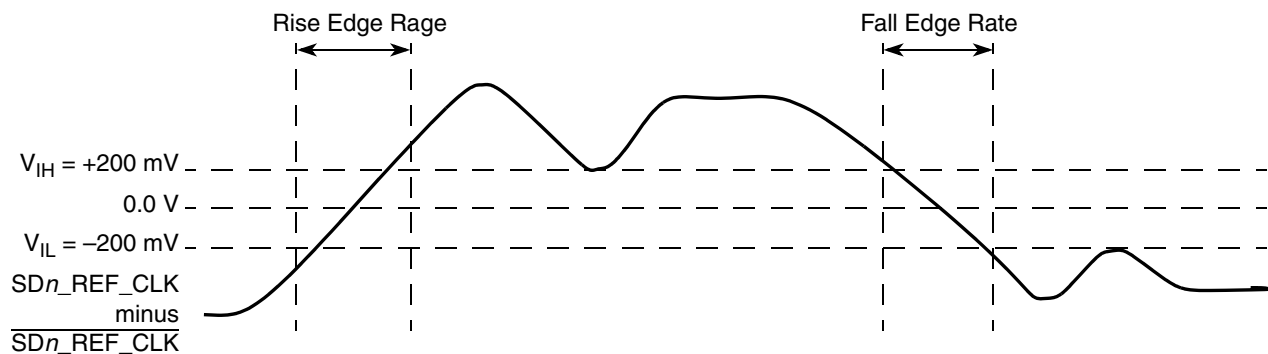

Figure 49. Differential Measurement Points for Rise and Fall Time
3. Measured from -200 mV to +200 mV on the differential waveform (derived from SDn_REF_CLK minus $\overline{SDn_REF_CLK}$). The signal must be monotonic through the measurement region for rise and fall time. The 400 mV measurement window is centered on the differential zero crossing. See Figure 49.